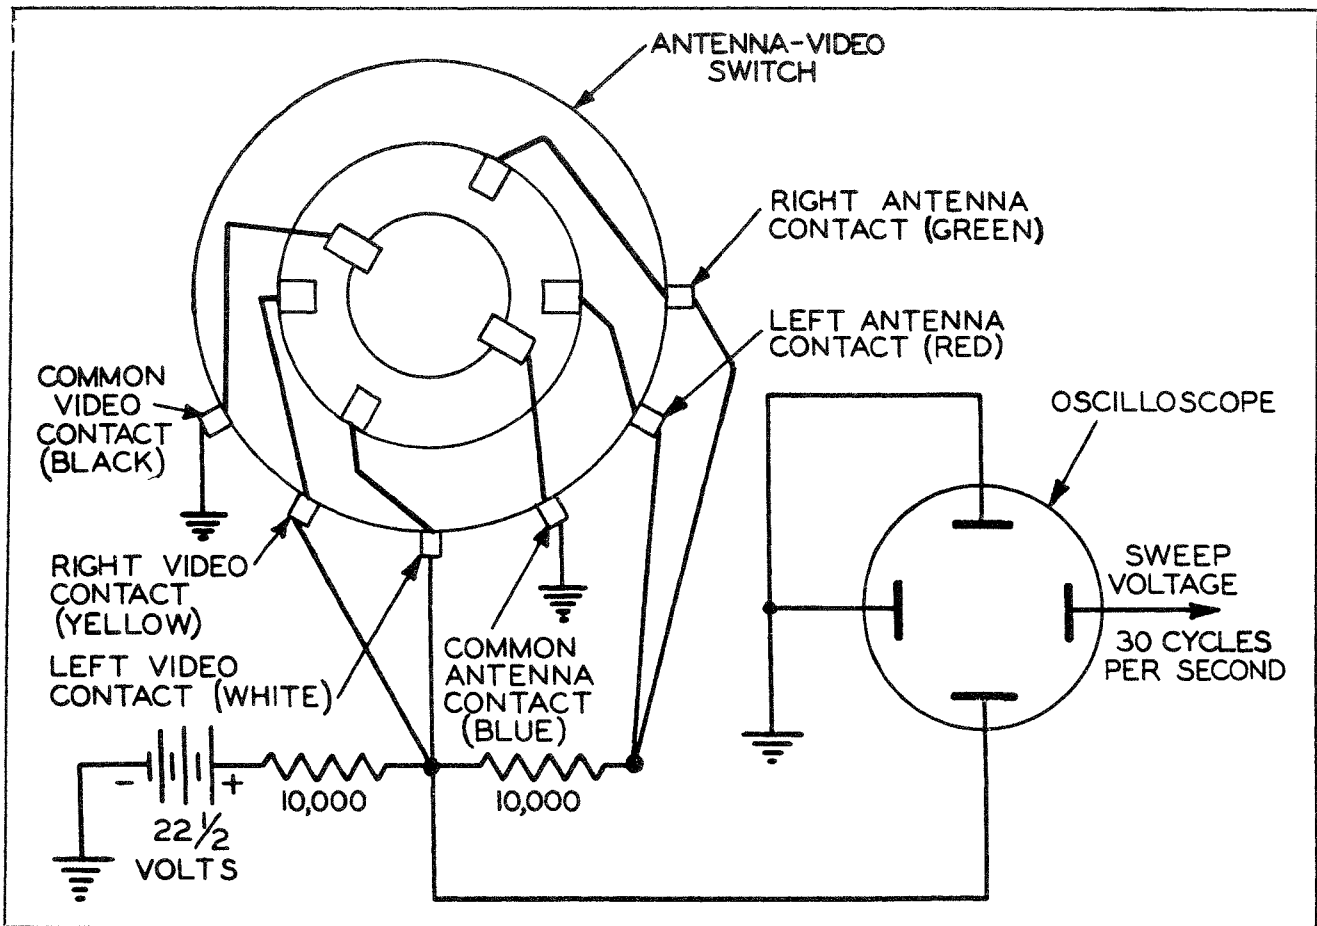

Figure 5-31 Antenna-Video Switch, Diagram of Test Connections
(1) Disconnect all video and antenna cables from antenna-video switch in Indicator BC-929-(*).
(2) Connect antenna-video switch to battery, oscilloscope, and resistance network, as shown in figure 5-31.